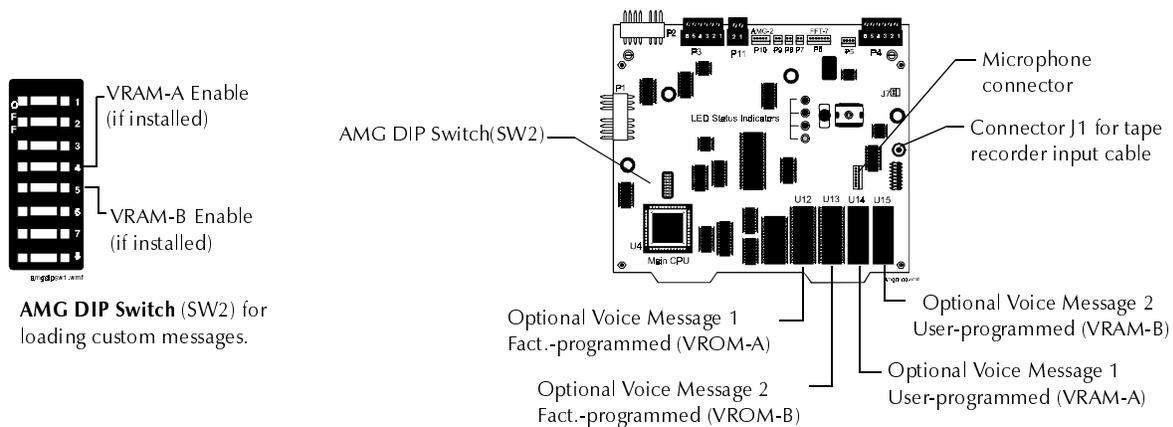

Figure 29 AMG-1 PC Board
Recording Custom Messages (VRAM option) You can record custom messages through the AMG-1 microphone or load a message recorded on an audio cassette recorder. To do so, you must install at least one VRAM chip in U12 (VRAM-A) or U13 (VRAM-B) on the AMG-1 (Figure 29). For example, if the AMG-1 contains a VRAM-A chip in U12, record a message as follows:
1. If loading a message from a tape recorder, connect the tape recorder to J1 on the AMG-1. (Figure 29)
Figure 29 shows the location of connectors and chips on the AMG-1: